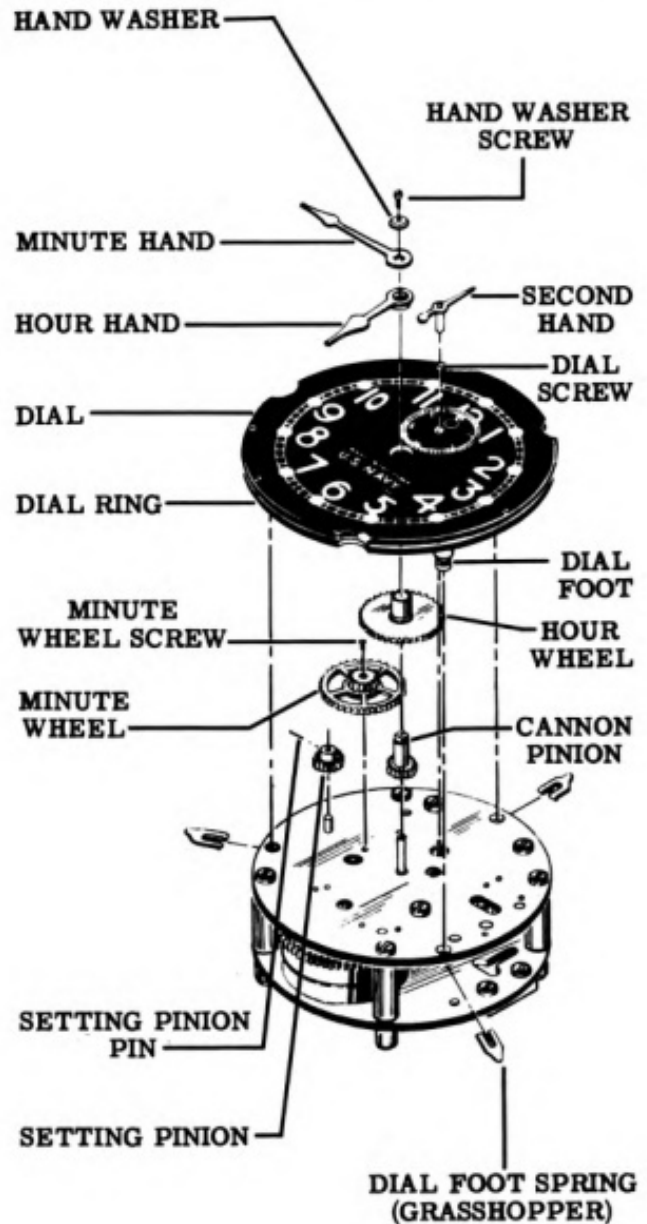

Figure 28
7. Using tweezers and a small screwdriver, remove the hand washer screw and the hand washer. See Fig. 28.
9. Tilt the dial and movement so that you can see the "grasshoppers" holding the dial ring feet to the front plate of the movement. With a pair of needle nose pliers, turn each "grasshopper" so that the head points away from the center of the dial and pull the "grasshoppers" completely off each of the three dial feet. Refer to Fig. 28 to identify the parts properly.
1. Before any disassembly work is done on the movement, it is necessary to let down the mainspring. Since the hour wheel is loose on the cannon pinion, first lift off the hour wheel. See Fig. 28.
2. With the movement in the work block, dial side up, unscrew the minute wheel screw and remove the minute wheel, the relative positions of which are shown in Fig. 28.